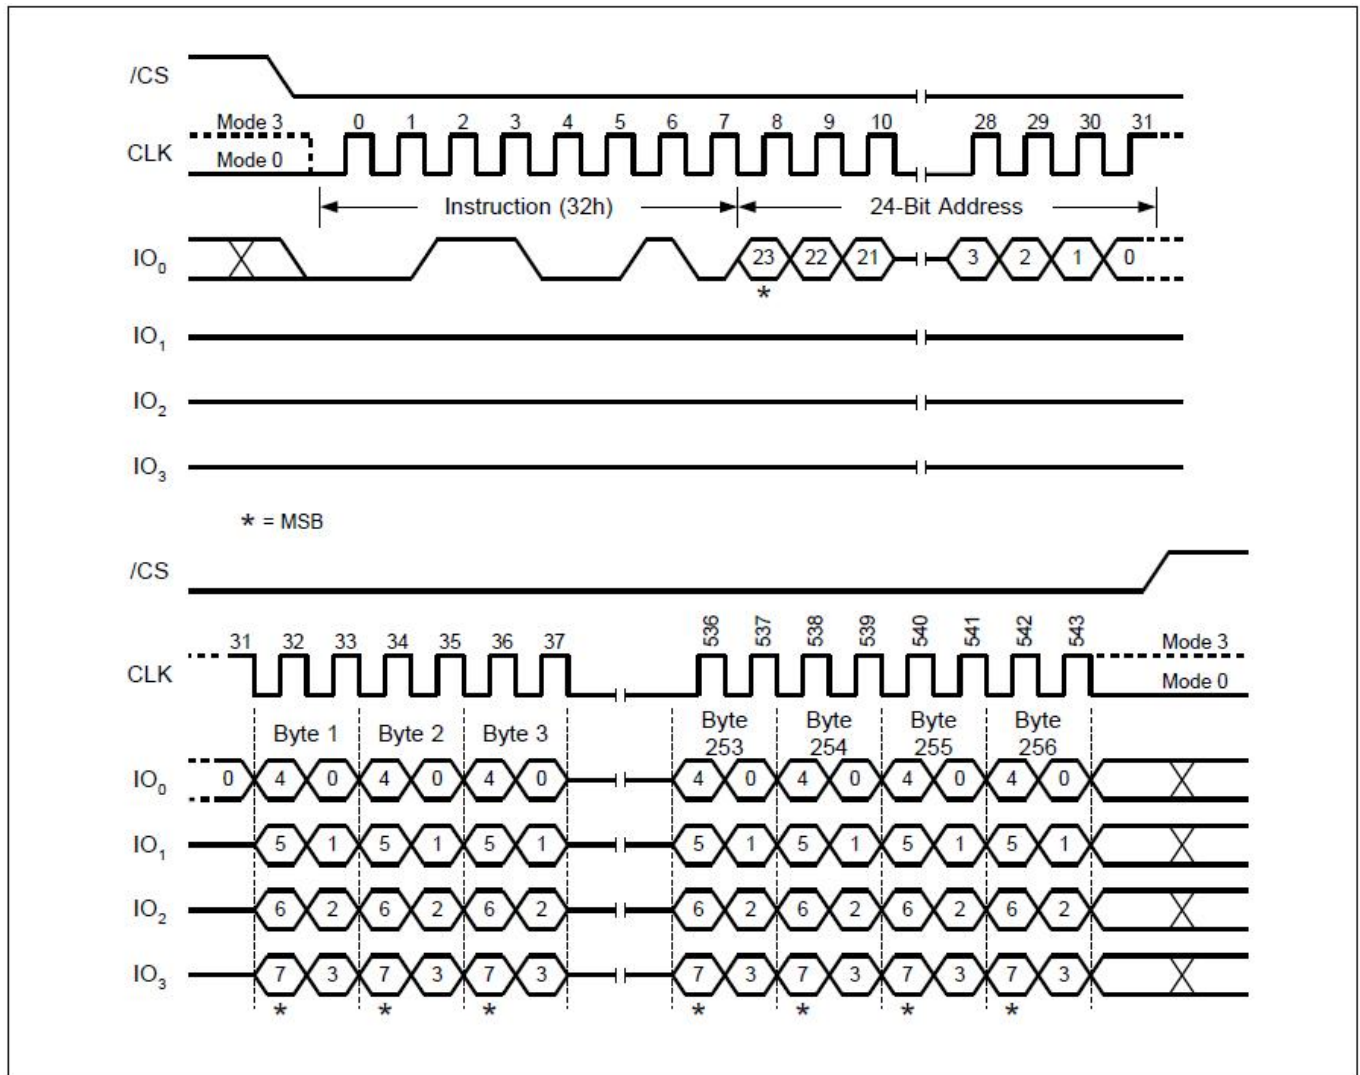

Figure14 Quad Page Program Sequence Diagram
The command sequence is shown in Figure14. If more than 256 bytes are sent to the device, previously latched data are discarded and the last 256 data bytes are guaranteed to be programmed correctly within the same page. If less than 256 data bytes are sent to device, they are correctly programmed at the requested addresses without having any effects on the other bytes of the same page. CS# must be driven high after the eighth bit of the last data byte has been latched in; otherwise the Quad Page Program (PP) command is not executed.